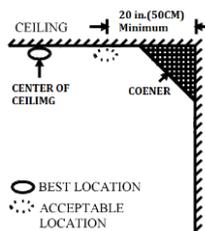

Figure 4:
- Install smoke alarms as close to the center of the ceiling as possible. If this is not practical, put the alarm on the ceiling, no closer than 20 inches (50 cm) from any wall or corner, as shown in Figure 4.
- If ceiling mounting is not possible and wall mounting is permitted by your local and state codes, put wall-mounted alarms between 4 and 6 inches (10 ~ 15 cm) from the ceiling, also see Figure 4.
IF IT IS NOT PRACTICAL TO MOUNT THE ALARM ON THE CENTER OF CEILING, PUT THE ALARM ON THE CEILING, NO CLOSER THAN 50 cm TO ANY WALL OR CORNER, AS SHOWN IN FIGURE 4
- Dead air spaces are often at the top of a peaked roof, or in the corners between ceilings and walls. Dead air may prevent smoke from reaching an alarm. See Figures 4 and 5 for recommended mounting locations.